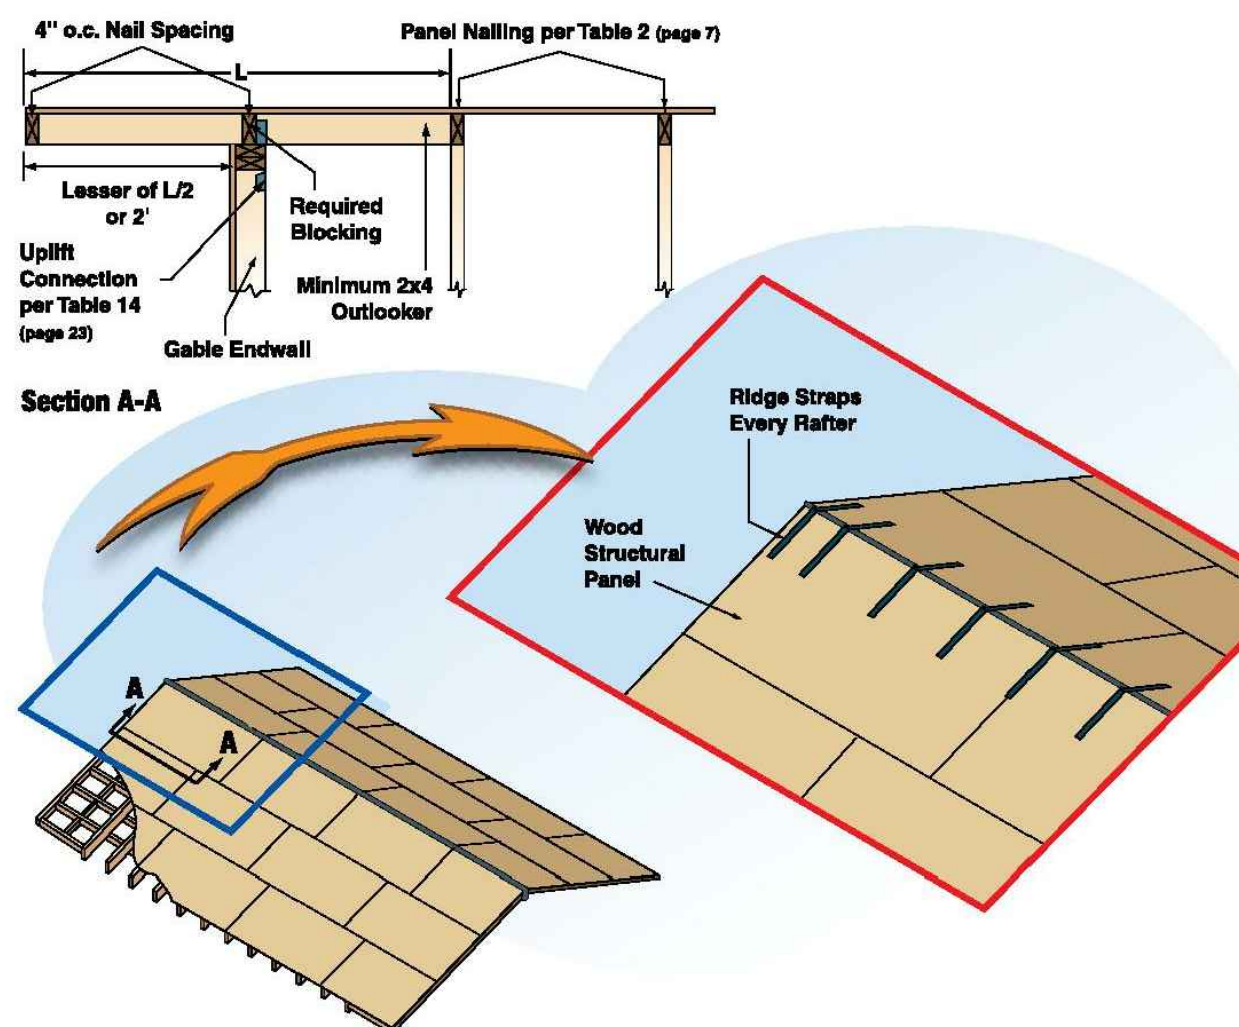

Figure 20. Rafter Outlooker Details
□ **Outlookers.** Where structural outlookers are used, the outlookers shall be constructed using 2x4 purlins connected in accordance with Table 14. Rake overhangs shall not be spaced more than 24" or exceed the lesser of one-half of the purlin length or 2 feet (See Figure 20).
□ **Ridge Beam.** A ridge beam shall be installed at the roof peak. The ridge beam shall be in accordance with the governing building code. Rafters shall bear directly on the ridge beam or be supported by hangers or framing anchors. Each rafter shall be connected to the ridge beam or to an opposing rafter (See Figure 20) with a ridge strap in accordance with the requirements of Table 13 (page 22). Ceiling joists or rafter ties shall not be required where a ridge beam is provided.